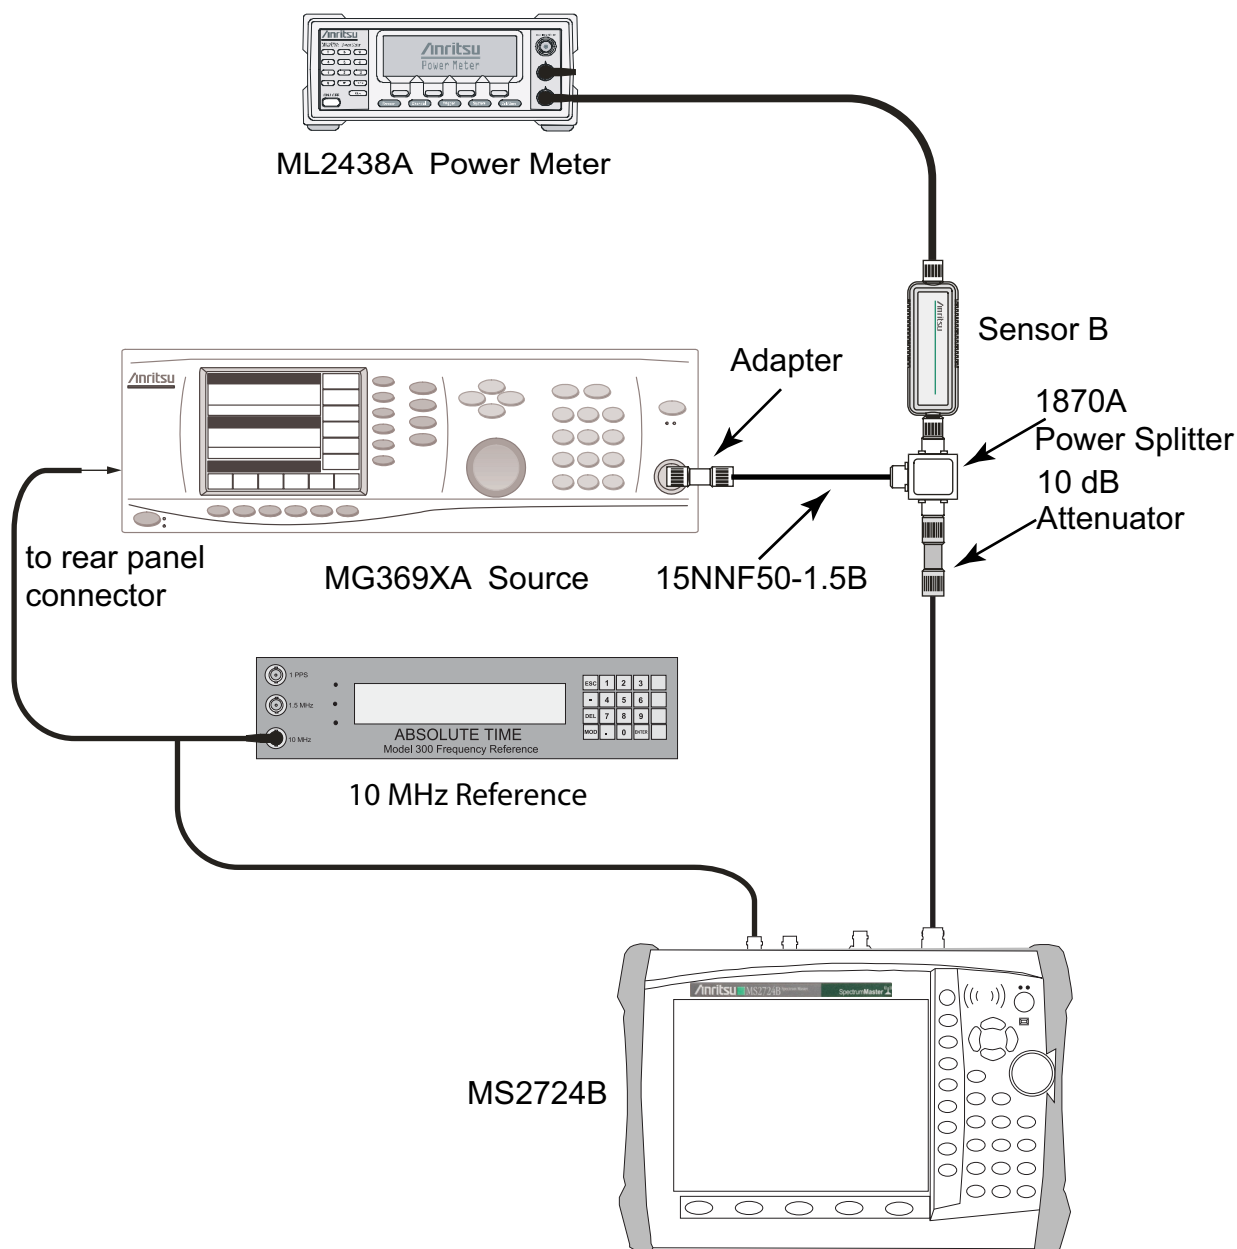

Figure 2-12. Fixed Level with Varying Frequency – Test Setup
1. Connect the equipment as shown in Figure 2-12.